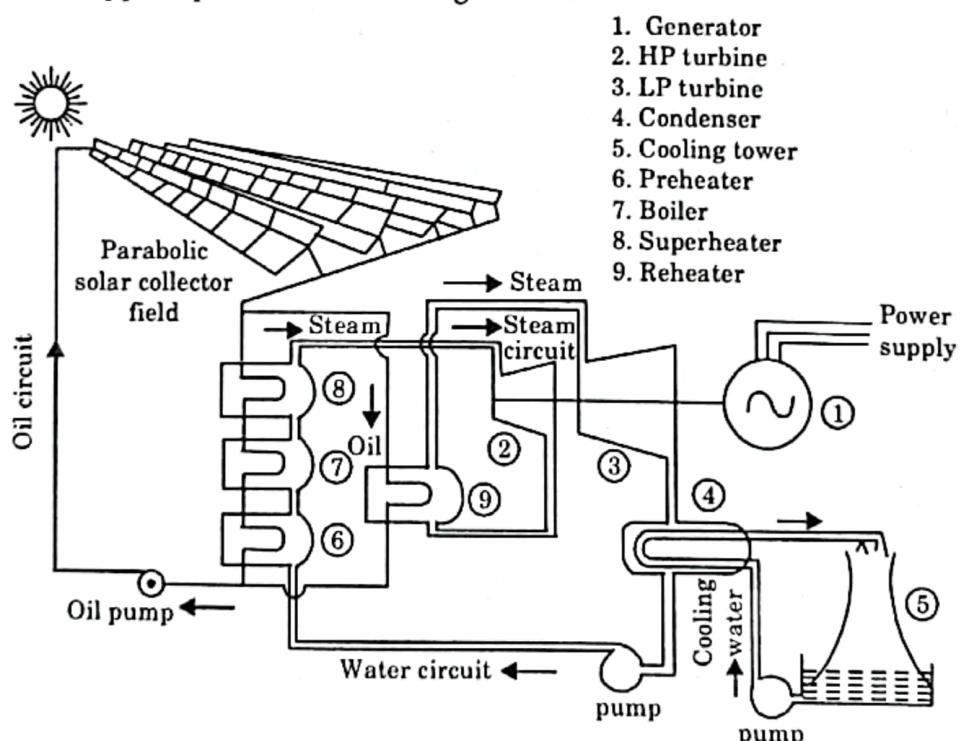

Fig. 2.18.2. Medium temperature solar power plant.
1. Solar thermal power plants operating on medium temperatures up to $400\text{ }^{\circ}\text{C}$ use the line focusing parabolic collector for heating synthetic oil flowing in the absorber tube as shown in Fig. 2.18.2. A schematic diagram of a typical plant is shown in Fig. 2.18.2.